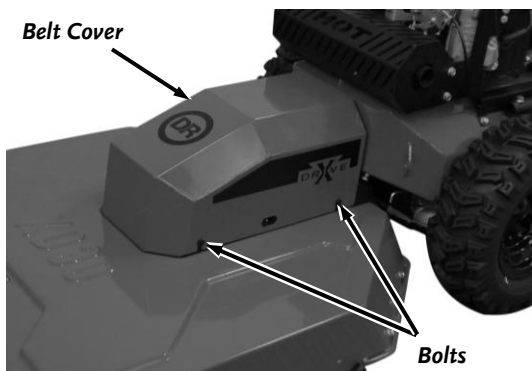

Figure 45
1. Loosen the four Bolts using a 1/2" Wrench and lift up to remove the Belt Cover (**Figure 45**).
8. Install the Belt Guard onto the Deck and tighten the four Bolts to secure it (**Figure 45**).